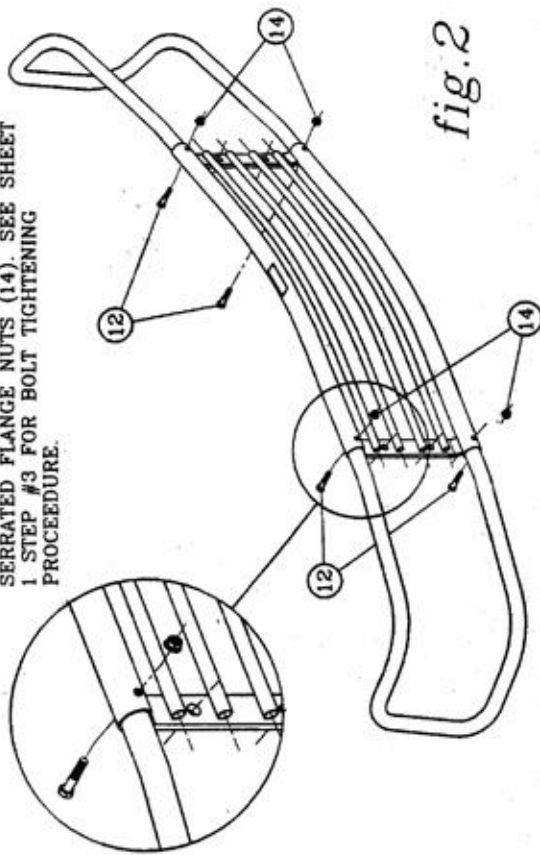

fig.2
3. INSTALL THE 3/8" X 1-3/4" HEX BOLTS (12) THROUGH THE HOLES IN THE RING FROM THE **BACKSIDE** OF THE GUARD AS SHOWN IN FIG. 2 AND INSTALL THE 3/8" SERRATED FLANGE NUTS (14). TIGHTEN THE BOLTS UNTIL THE CENTER RING ASSEMBLY TUBE COMPRESSES ON THE END RING TUBE AND THERE IS NO MOVEMENT IN THE END RING TUBE. WHEN FINISHED TIGHTENING, **ONE OF THE FLATS ON THE BOLT HEAD SHOULD BE PARALLEL WITH THE RING** SO THAT THE STOP INSIDE OF THE UPRIGHT CAP WILL REST ON THE FLAT AREA.
3. INSTALL THE 3/8" X 1-3/4" HEX BOLTS (12) THROUGH THE HOLES IN THE RING FROM THE BACK SIDE OF THE GUARD AS SHOWN IN FIG. 2 AND INSTALL THE 3/8" SERRATED FLANGE NUTS (14). SEE SHEET 1 STEP #3 FOR BOLT TIGHTENING PROCEDURE.